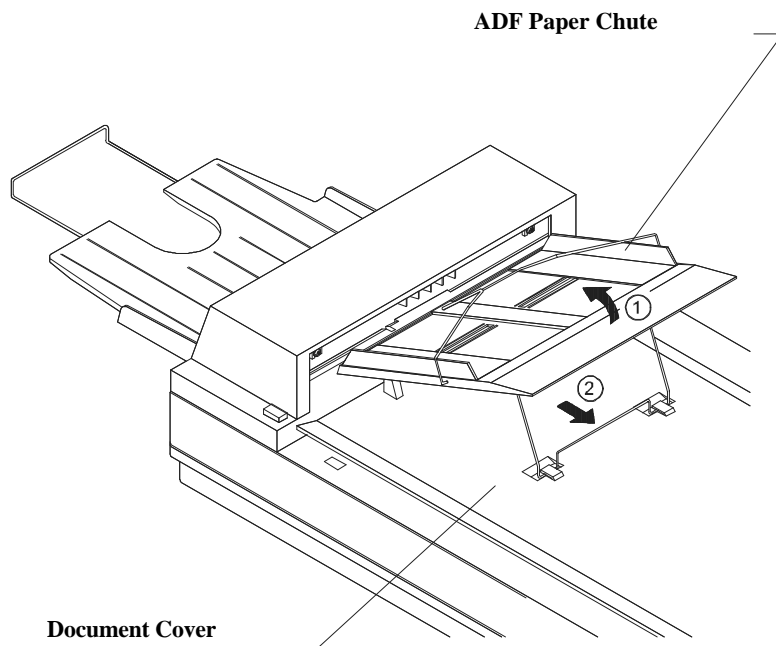

Figure 2-4 - Setting the ADF Paper Chute
2.3 ADF Paper Chute (Figure 2-4)
- ii) Pull down the wire leg from under the paper chute ①.
- iii) Insert the wire leg into the grips on the document cover ②.